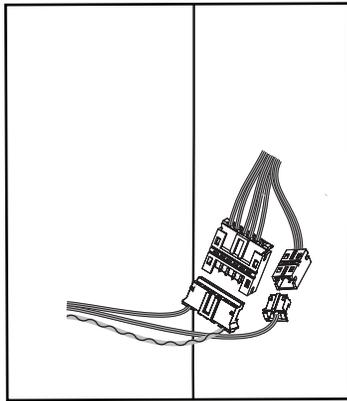

Figure 13a
1. Connect 6-pin connector from exit device to 6-pin connector on reader harness (Figure 13a, 13b).
2. Connect 2-pin connector from exit device to 2-pin connector on reader harness (Figure 13a, 13b).